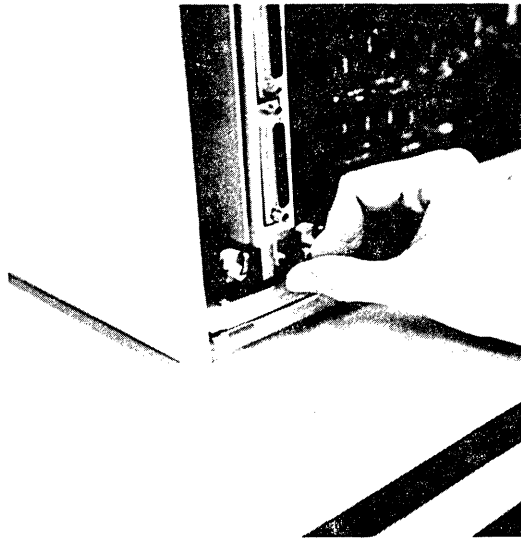

FIGURE 16
3. Pull out the metal lever extending from the plastic cap at the bottom of the card you want to remove. (See Figure 16.)